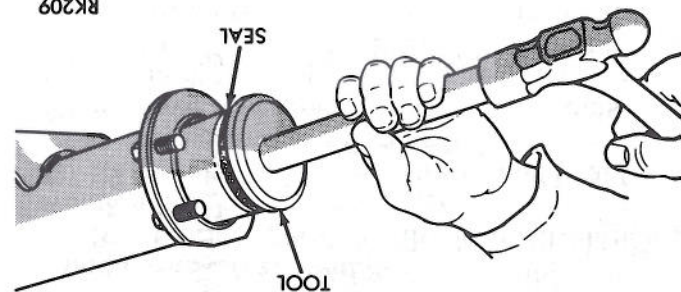

Fig. 6—Installing Axle Shaft Oil Seal
(1) Wipe axle shaft bearing cavity of axle housing clean. The axle shaft oil seal bores at both ends of housing should be smooth and free of rust and corrosion. This also applies to brake support plate and housing flange face surface.
(2) Position axle shaft bearing onto pilot of proper Bearing Installer Tool C-4198 and handle C-4171. Insert axle shaft bearing into cavity making sure it bottoms against the shoulder and is not cocked in bore.
(3) Install axle shaft bearing seal using Tool C-4203 and handle C-4171, flat side of tool must be against seal, (Fig. 6) until the tool bottoms against housing flange face. This positions the seal to the proper depth beyond the end of the flange face.